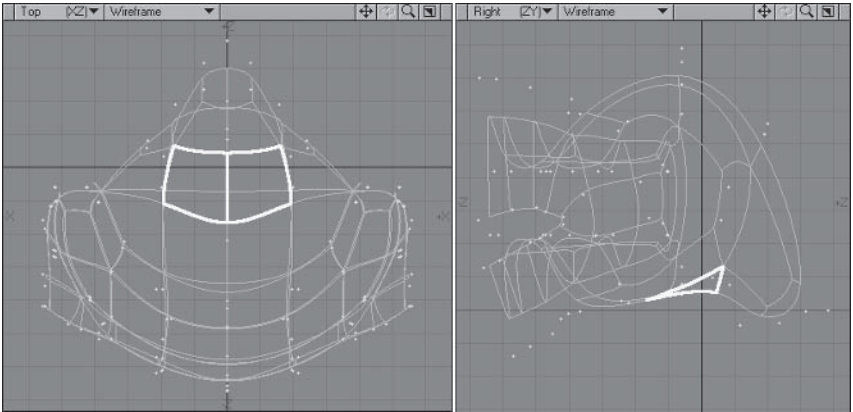

Figure 5.3-105. Preparing the base of the tongue.
1. Select the two bottom polygons at the back of the mouth and adjust them to match Figure 5.3-105.